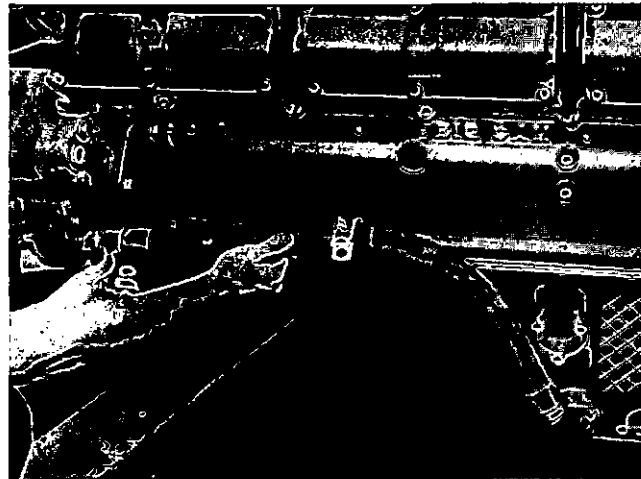

Fig. 14-64 (N114277). Install The Oil Suction Tube.
3. Push the tube and sleeve assembly into the oil pump adapter until it is against the bottom in the adapter. Use your hand to tighten the nut. Then tighten the nut an additional 1 to 1-1/4 turn, Fig. 14-64.